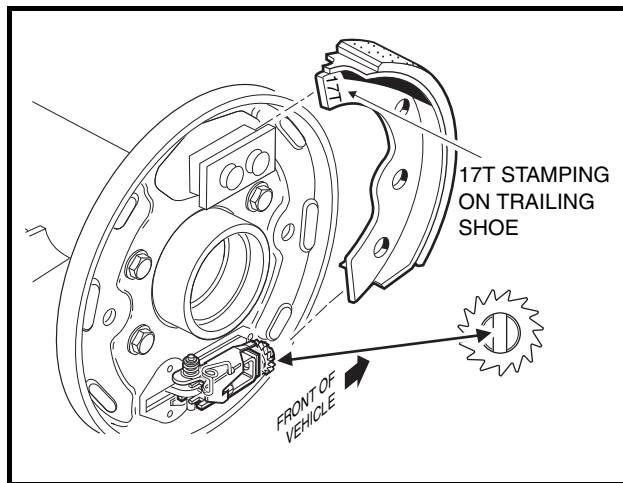

Figure 6-12 Trailing Shoe
1. Turn the adjusting wheel screw so the shoe slot is vertical, then position the trailing shoe in the slots in the shoe mounting block and adjuster assembly (Figure 6-12, Page 6-6). See following NOTE.
NOTE: The trailing shoe has 17T stamped into the tip of the shoe flange (**Figure 6-12, Page 6-6**). The leading shoe is stamped 17L. When installing the shoes, the stampings on both shoes should be oriented to the top of the brake assembly. When installing the shoes on the passenger side of the vehicle, the side of the trailing shoe flange marked 17T should be facing out and be visible. On the driver side, the 17L on the leading shoe should be facing out and be visible.